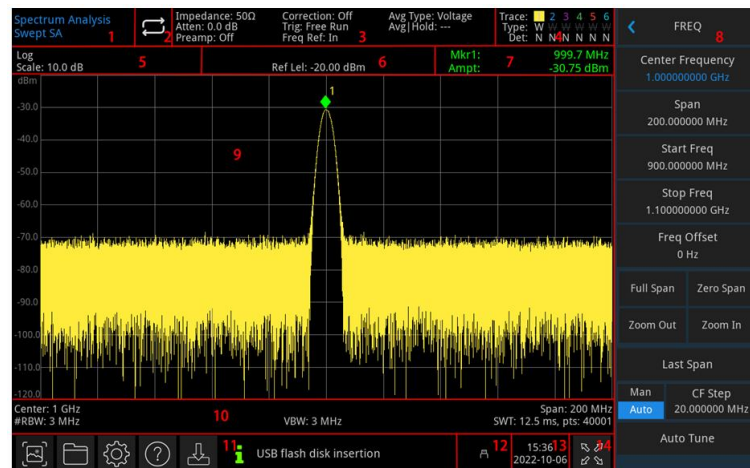

Figure 2-2 User Interface
1. Decompress the upgrade package to the root directory of the USB flash drive. The package contains two files, xxxx.md5 and xxxx.upg, as shown in Figure 2-2;